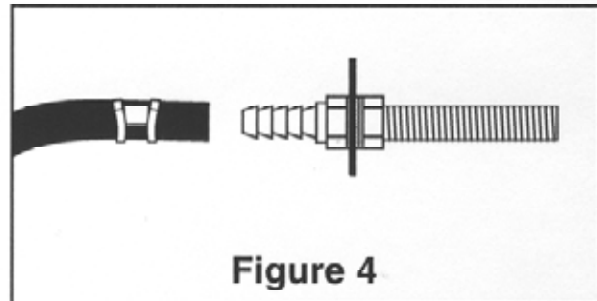

Figure 4
- K. Slide clamp onto the air line and push air line onto the fitting, covering all the barbs. With pliers slide the clamp forward until it fully covers the barbed section (Figure 4).
- I. Slide clamp onto the air line and push air line onto the fitting, covering all the barbs. With pliers slide the clamp forward until it fully covers the barbed section (Figure 4).